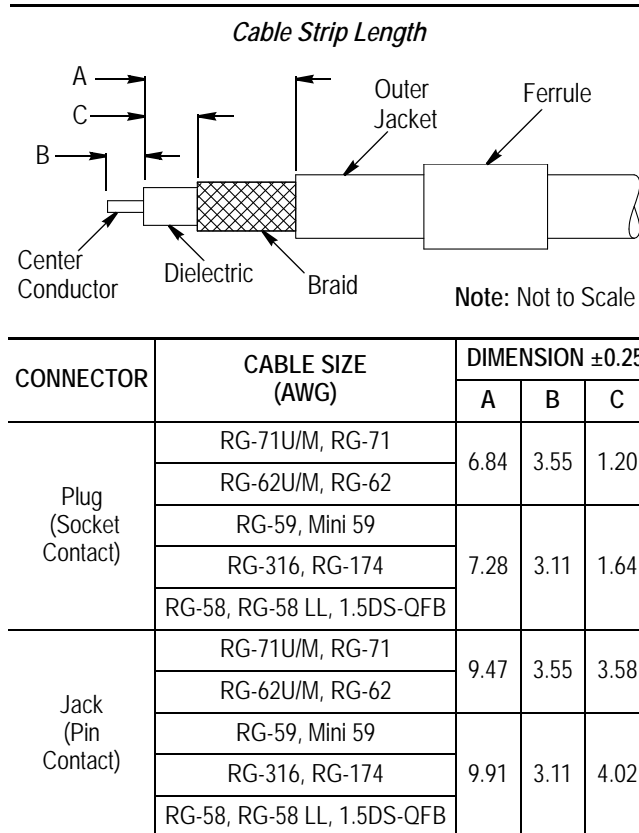

Figure 2
1. Refer to Figure 2 for applicable cable sizes.
2. Slide the ferrule onto the cable. See Figure 2.
3. Strip the cable to the dimensions given in Figure 2. Be careful to NOT nick or cut the center conductor or the braid.